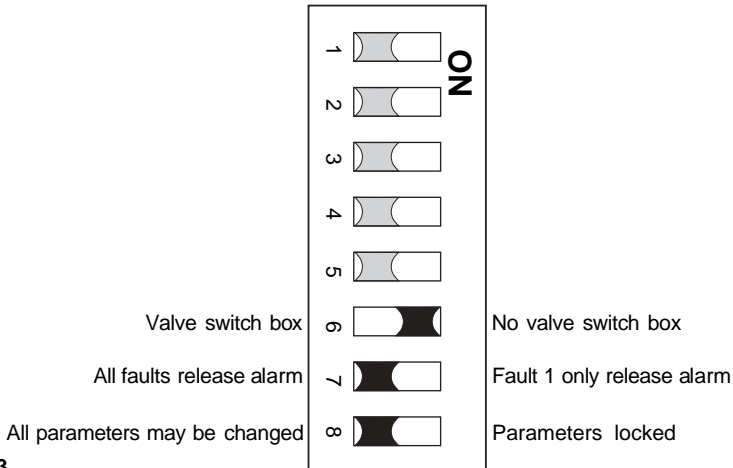

Fig. 3
- Set the switches to the positions shown in Figure 3 for the chosen duties.